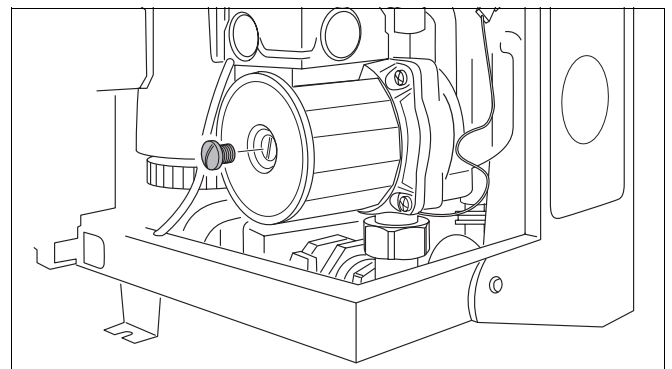

Fig. 65 600 - 11S / 19S / 24S / 24C: checking the pump
- Remove screw plug on the pump (fig. 65).